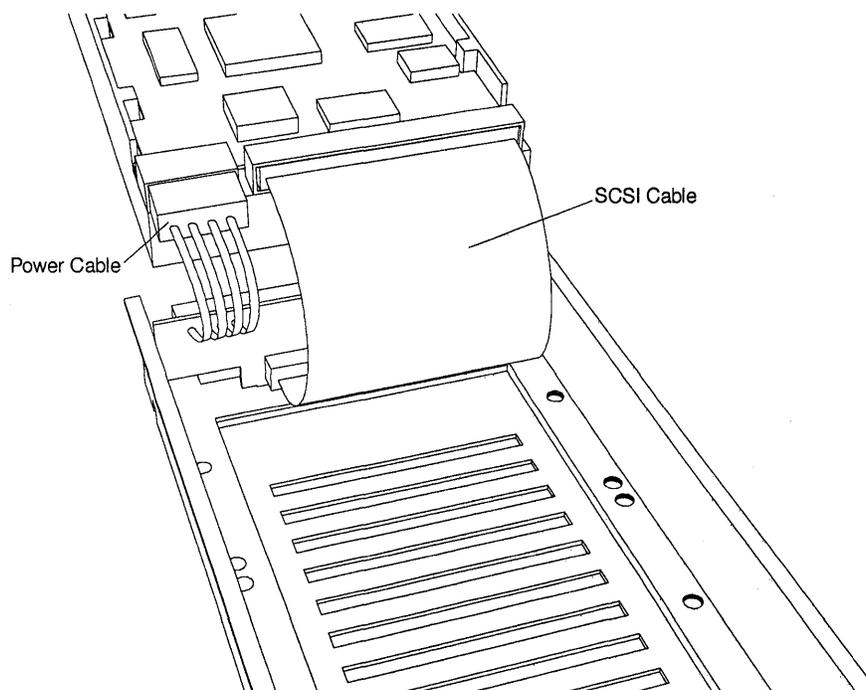

Figure 1-2: Disk drive tray SCSI and power cables
- 4 Connect the canister's SCSI and power cables to the drive (see Figure 1-2).